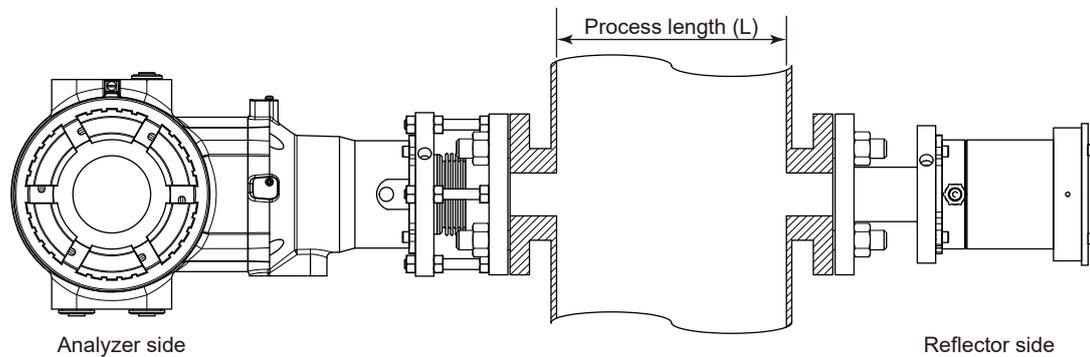

Figure 3.3 Definition of process optical path length (Reflect type)
For the Reflect type, the process length (L) is the distance between the analyzer part and the reflector part, as shown in Figure 3.3.